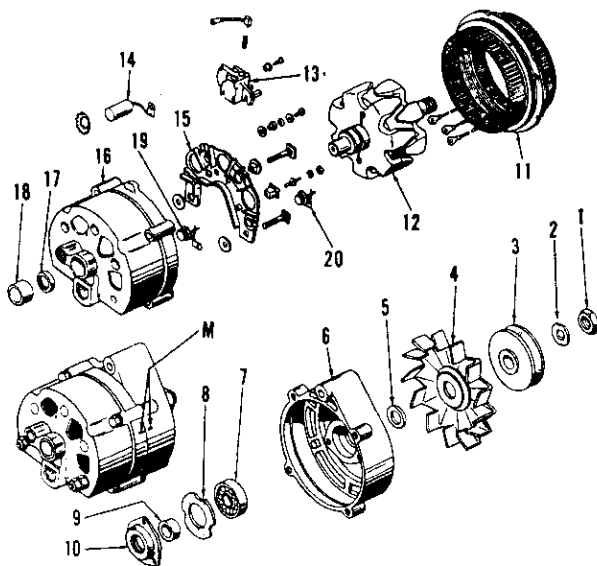
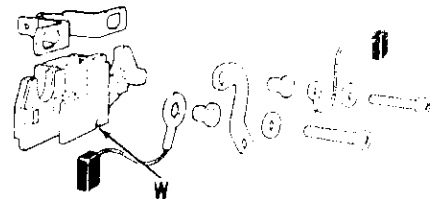

Fig. 85—Exploded view of "DELCOTRON" alternator used on Series 444 and 2444.
Fig. 87—Exploded view of brush holder assembly. Insert wire in hole (W) to hold brushes up. Refer to text.
To disassemble the alternator, first place match marks (M—Fig. 85) on the two frame halves (6 and 16), then remove the four through-bolts. Pry frame apart with a screwdriver between stator frame (11) and drive end frame (6). Stator assembly (11) must remain with slip ring end frame (16) when unit is separated.
Disconnect the three stator leads and separate stator assembly (11—Fig. 85) from slip ring end frame assembly. Check stator windings for grounded or open circuits as follows: Connect ohmmeter leads successively between each pair of stator leads. A high reading would indicate an open circuit.
insert a short piece of straight wire through hole (W—Fig. 87) and through end frame (16—Fig. 85) to outside. Withdraw the wire only after alternator is assembled.